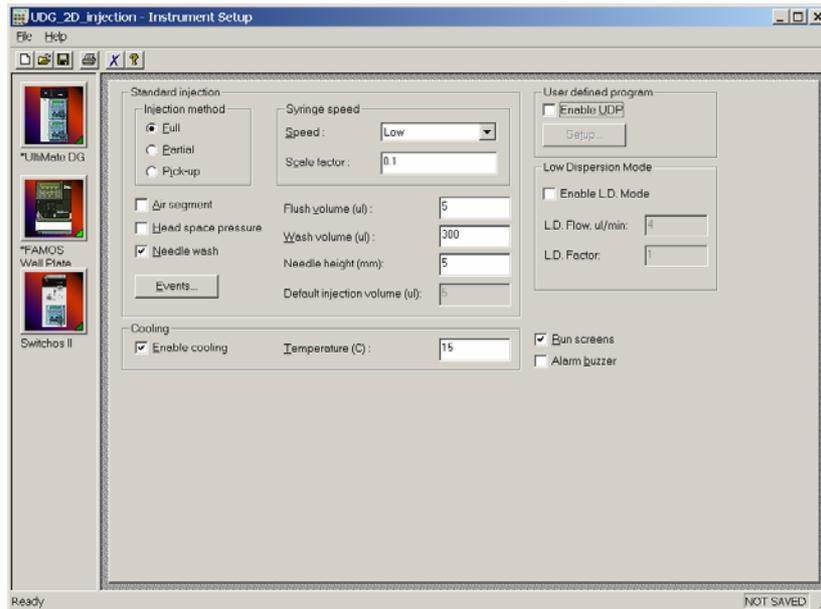

FIGURE 3-9 The FAMOS Setup Window
- f) Choose the *FAMOS* icon in the **Instrument Setup** window to display the FAMOS setup window (FIGURE 3-9) to program the injection parameters as discussed in Section 2.5.3 A. In the 2D-LC application, sample is injected only in the first line of the sequence.